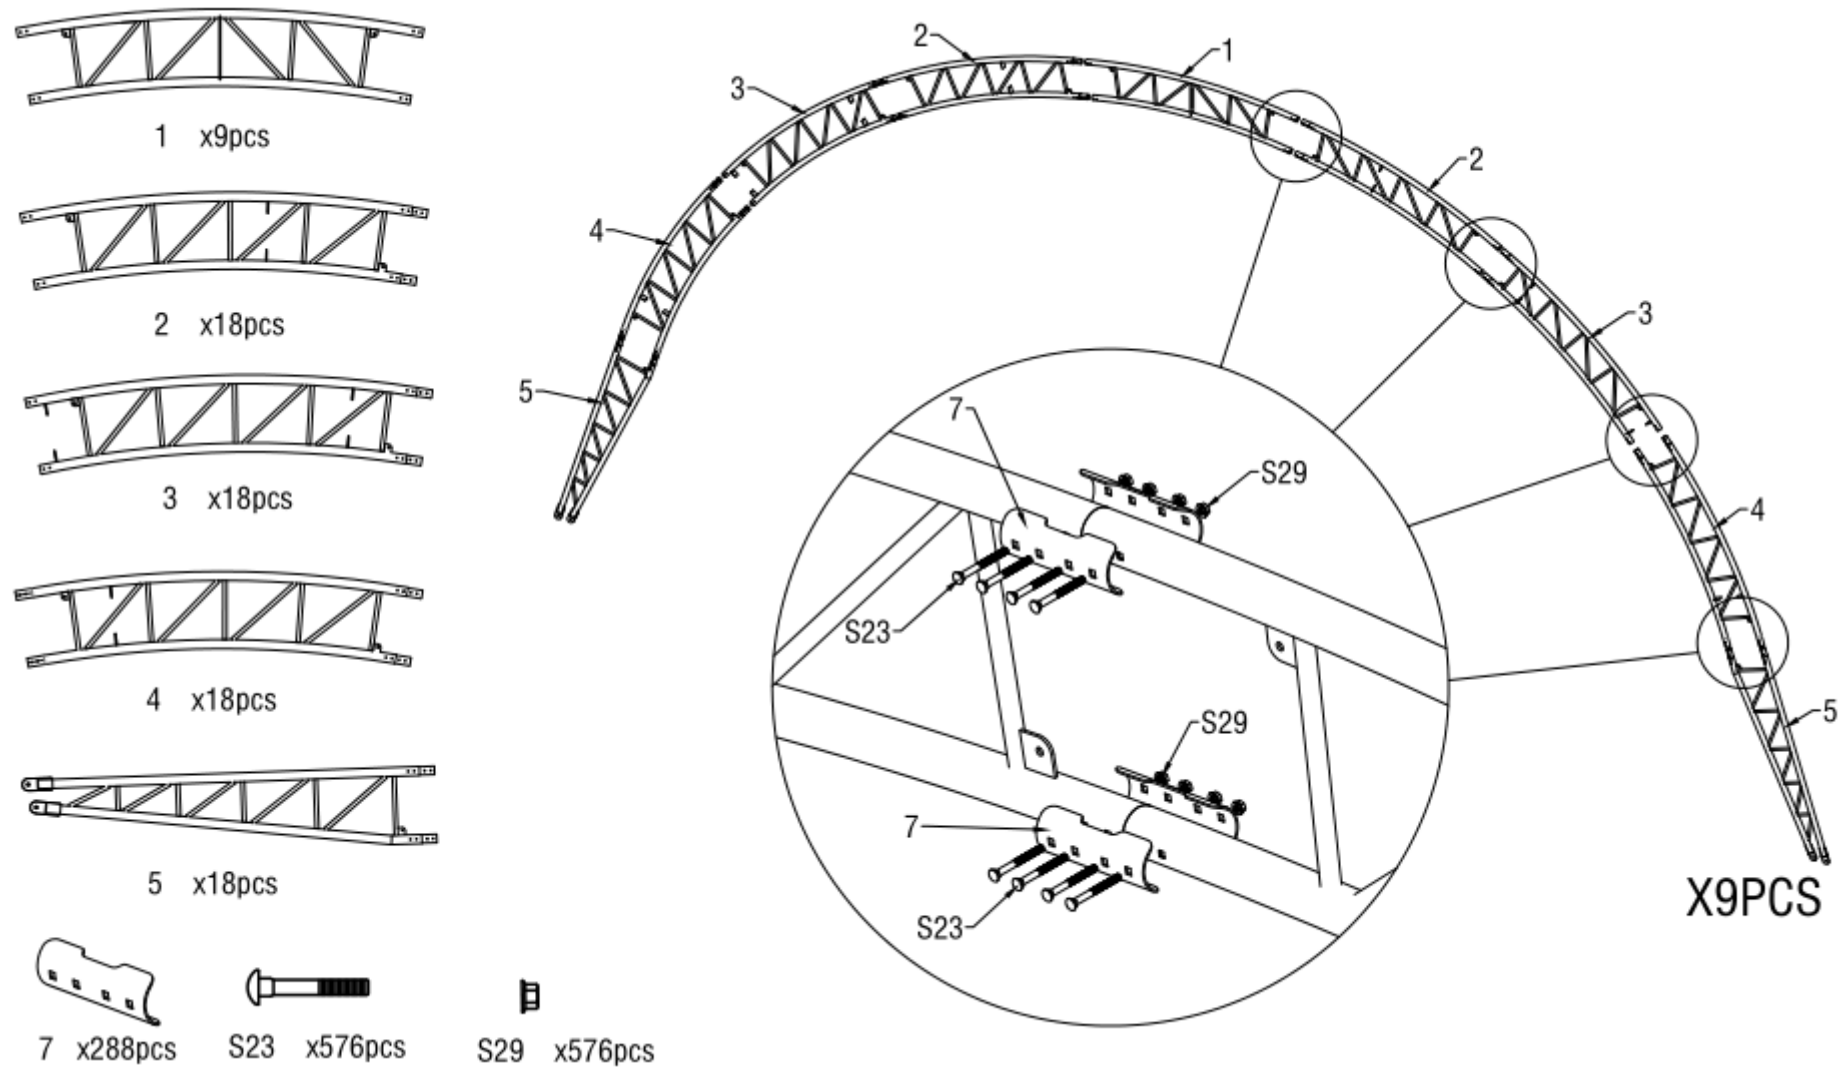

Figure 4
2. As Figure 4 shown to find one Top roof tube (No.1), two Roof upper curving tube (No. 2), two Roof middle curving tube at shoulder (No. 3) ,two Side lower curving tube (No. 4),two Lower curving tube (No. 5) and assemble every group arch with Screw M8x80 (No.S23). **DO NOT install the screw on the top of the truss where the fabric will rest.**
**Note:** Top Roof tube,Roof curving tube, Roof middle curving tube, Side lower curving tube and Lower curving tube (No.1A,2A,3A,4A&5A) which are welded with steel plates for front and back doors are different from the middle arch.(Figure 4)